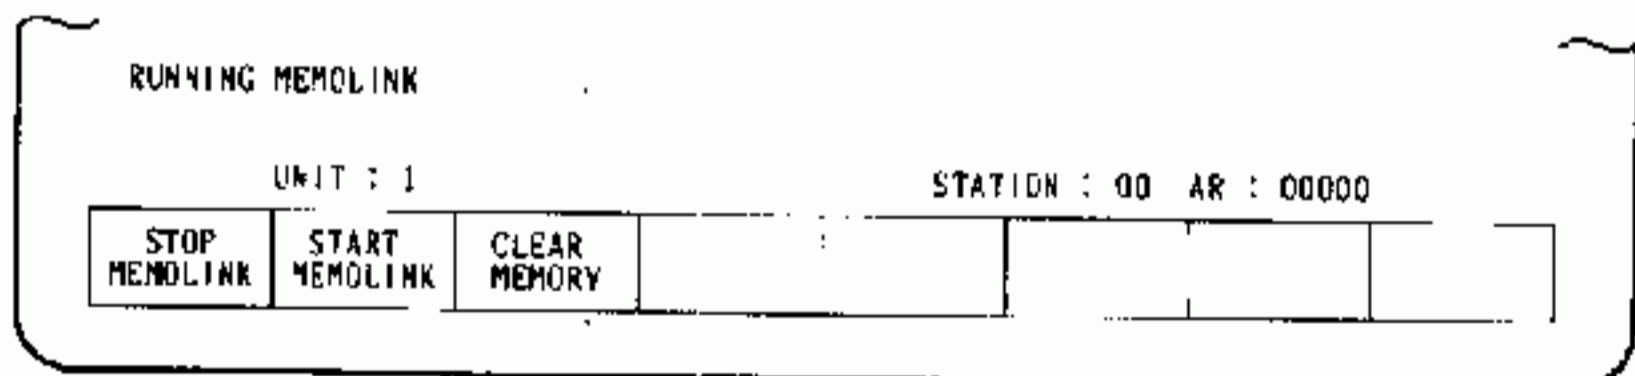

Fig. 5.1.90
2. If "CANCEL" is depressed instead of "CONFIRM," nothing happens, and the display returns to that shown in Fig. 5.1.90.
(3) Clearing Memory